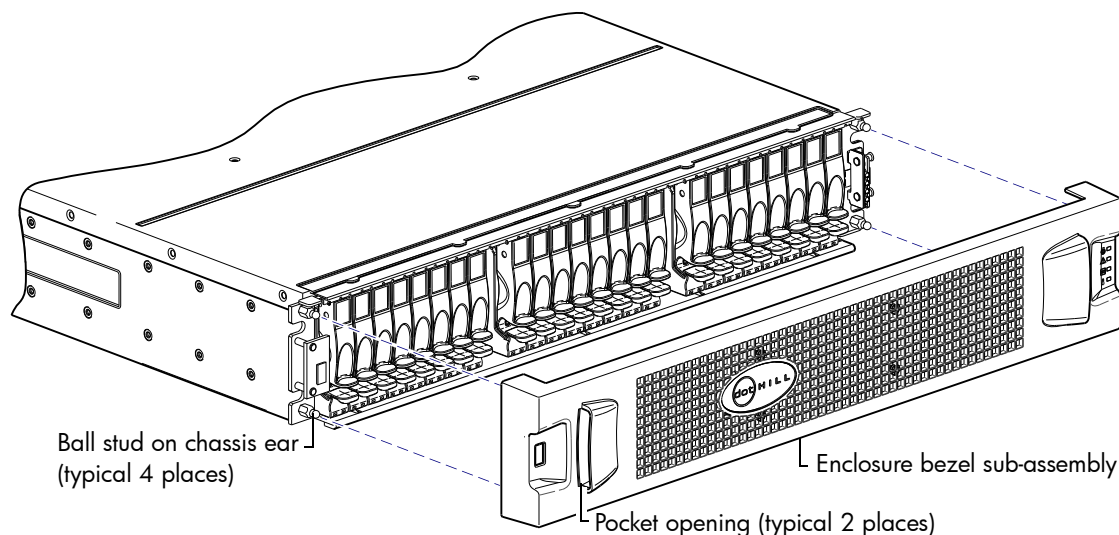

Figure 11 Partial assembly showing bezel alignment (2U24)
- See Figure 11 on page 21 for 2U24 enclosure bezel alignment.